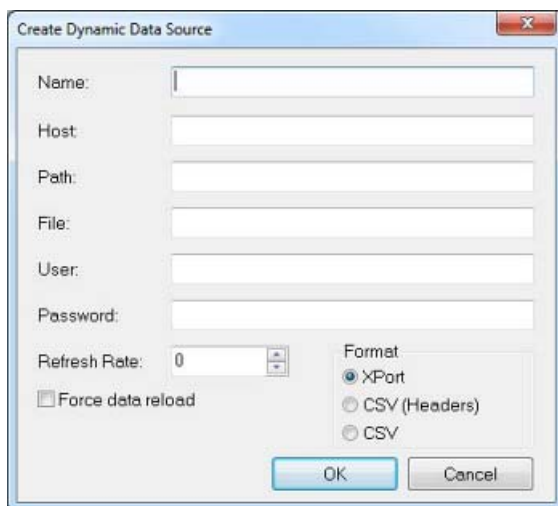

FIG. 126 Create Dynamic Data Source dialog
1. In the *Dynamic Data Sources* tab of the Resource Manager, click **New** to open the *Create Dynamic Data Source* dialog (FIG. 126):